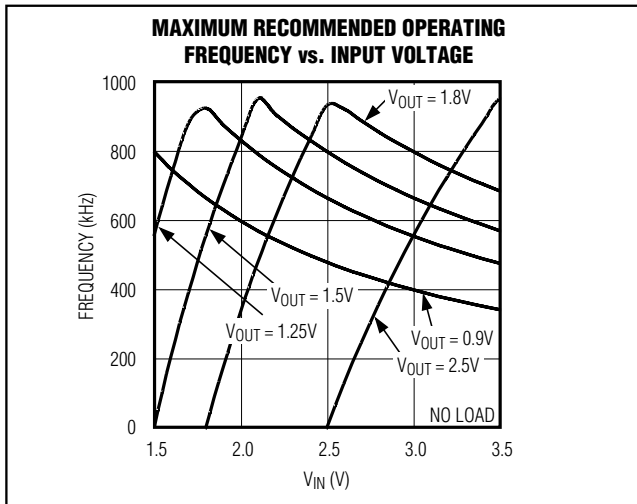

Figure 6. Maximum Operating Frequency vs. Input Voltage
- 1) Select the desired PWM-mode switching frequency. See Figure 6 for maximum operating frequency.